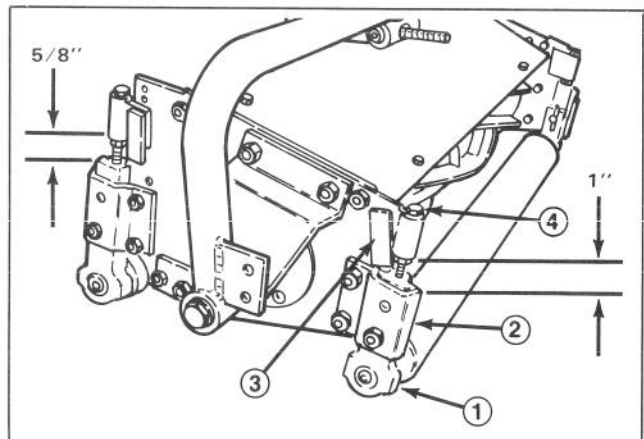

Figure 6
LEVEL REAR ROLLER (Fig. 6)
2. Slightly loosen (crack) nut securing each roller bracket to angle bracket (Fig. 6).
3. Adjust support capscrew to achieve $1'' \pm 1/16$ dimension between Height-of-Cut support and *front* roller bracket (2 places) (Fig. 6).
4. Adjust support capscrew to achieve $5/8'' \pm 1/16$ dimension between Height-of-Cut support and *rear* roller bracket (2 places) (Fig. 6).